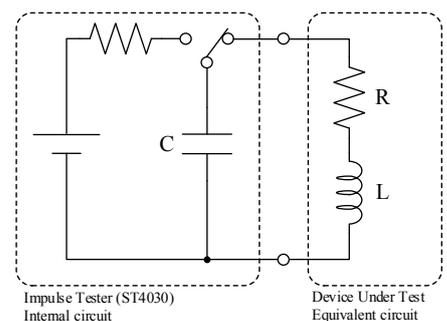

Figure 1: Equivalent circuit model for identifying LC and RC characteristics
In line with previous studies⁽¹⁾, this article will describe the two parameters used in characteristic distribution as LC and RC characteristics. These characteristics are the products of the resistance component R, the capacitance component C, and the inductance component L of the equivalent circuit shown in Figure 1 for the instrument and workpiece under test, in the sense of $L \times C$ (LC) and $R \times C$ (RC). The former corresponds to oscillation frequency and the latter to attenuation in the attenuating oscillation waveform.